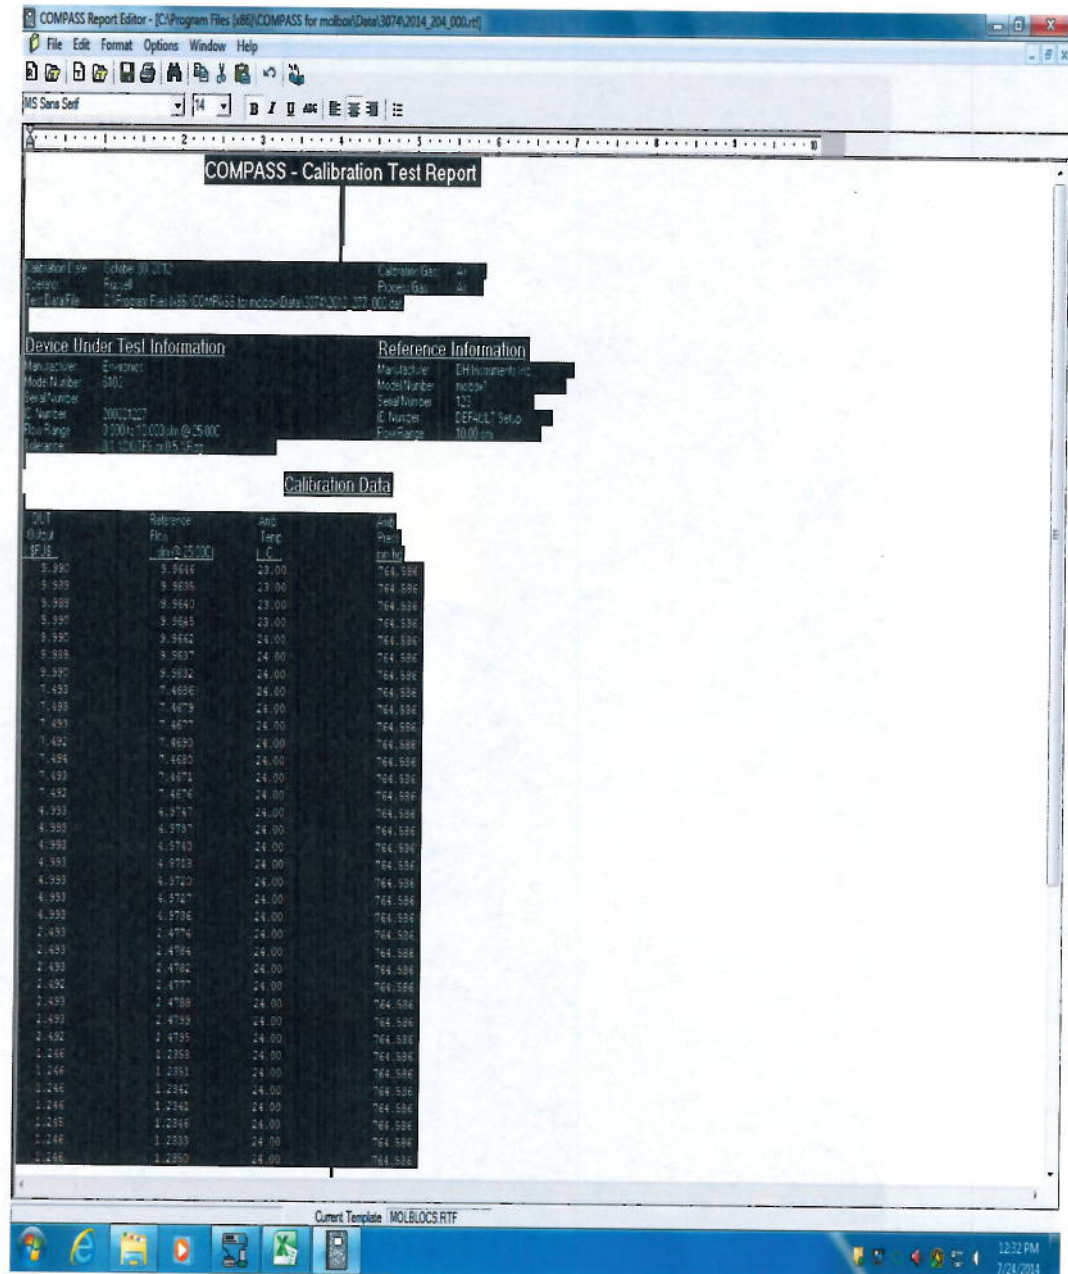

Figure 20
- 12.3.21 Press "Ctrl-A" to highlight the COMPASS – Calibration Test Report. Press "Ctrl-C" to copy the report. See Figure 20. Proceed to Step 13.0.